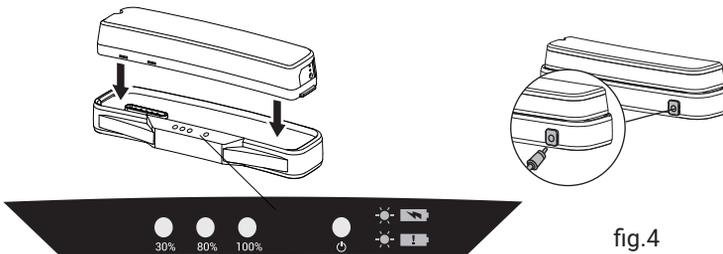

fig.4
- Insert the battery vertically into the charger base and connect it to the power supply. The 100% indicator will illuminate to indicate a fully charged status (See fig.4).
1 Right side indicator: green for normal charging, red for battery box issue (See fig.4).